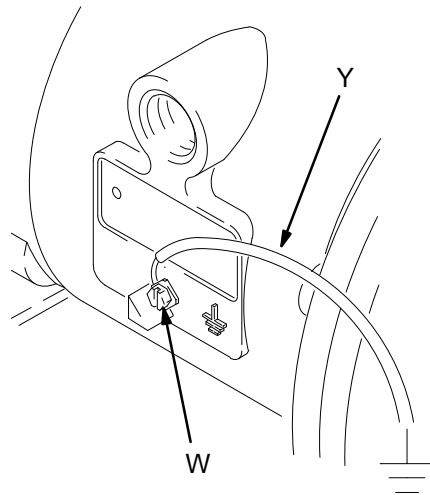

Fig. 1
When pumping conductive flammable fluids, **always** ground the fluid system by making sure the fluid has an electrical path to a true earth ground. See Fig. 1.
- **Pump:** Connect a ground wire and clamp as shown in Fig. 1. Loosen the grounding screw (W). Insert one end of a 1.5 mm² minimum ground wire (Y) behind the grounding screw and tighten the screw securely. Connect the clamp end of the ground wire to a true earth ground. Order Part No. 819.0157 Ground Wire and Clamp.